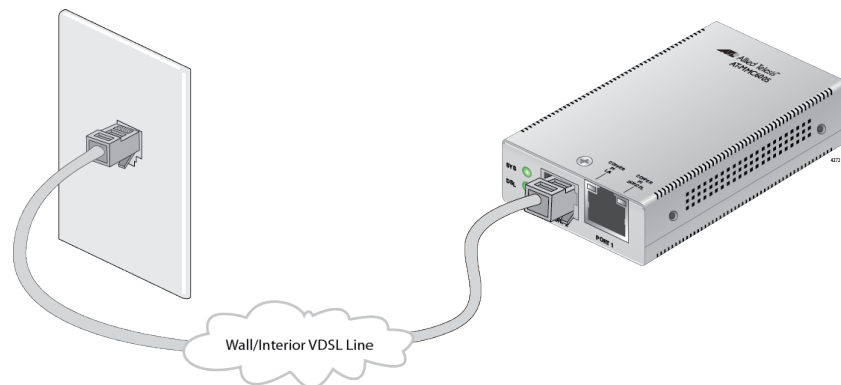

Figure 13. Subscriber Unit DSL Port to DSL Line in Building
2. Connect the DSL port on the Subscriber unit to the VDSL wall jack or the interior VDSL line in the building with either a phone line for the MMC6005 or a coax cable for the MMC6006 as shown in Figure 13. This connection allows the Subscriber unit to communicate directly with the Provider unit.